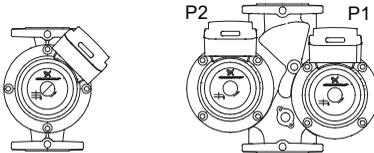

Fig. 3 Standard positions
Figures 3 to 5 in the appendix show the possible connections and the setting of the selector switch for the various operating modes:
- Figure 3: Alternating operation.